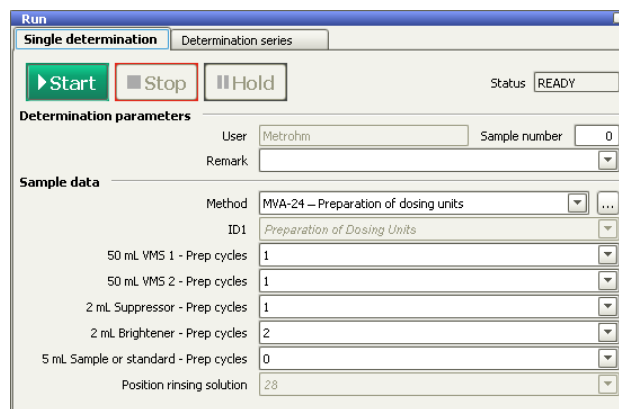

Figure 18. Example for the settings in the «Run» window to prepare the 807 Dosing Units using the method «AB444 – MVA-24 - Preparation of dosing units».
For startup or shutdown of the system, the preparation of 807 Dosing Units can be done from the **viva** «Manual control». But more conveniently, the 807 Dosing Units can be prepared using the method «AB444 – MVA-24 - Preparation of dosing units», which is provided with this Application Bulletin. The method allows the user to specify the number of preparation cycles individually for each 807 Dosing Unit on the workplace as shown in **Figure 18**.
- 807 Dosing Unit «5 mL Standard or sample» is usually prepared within the determination methods with solution from the rack of the sample changer. The consequence for a manual preparation is that the intended solution also needs to be placed on the rack and the position needs to be specified. In this method, this is covered by the parameter «Position rinsing solution» (see **Figure 18**). When the 807 Dosing Unit «5 mL Standard or sample» should be prepared, the sample changer moves to the specified position and immerses the needle into the solution. In the example, the position is fixed at number 28, just as in the determination methods.